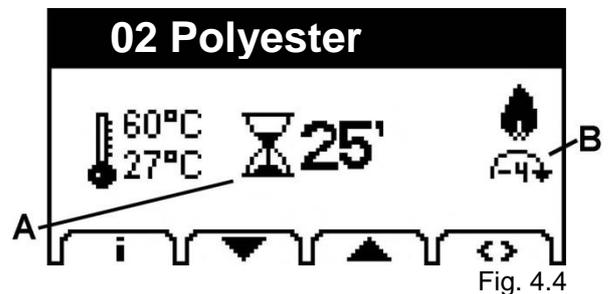

Fig. 4.4
- During the **drying stage**, the remaining drying time is displayed (Fig. 4.4/A), and depending on the type of drying selected, the Autospeed  or speed change icon appears (Fig. 4.4/B).